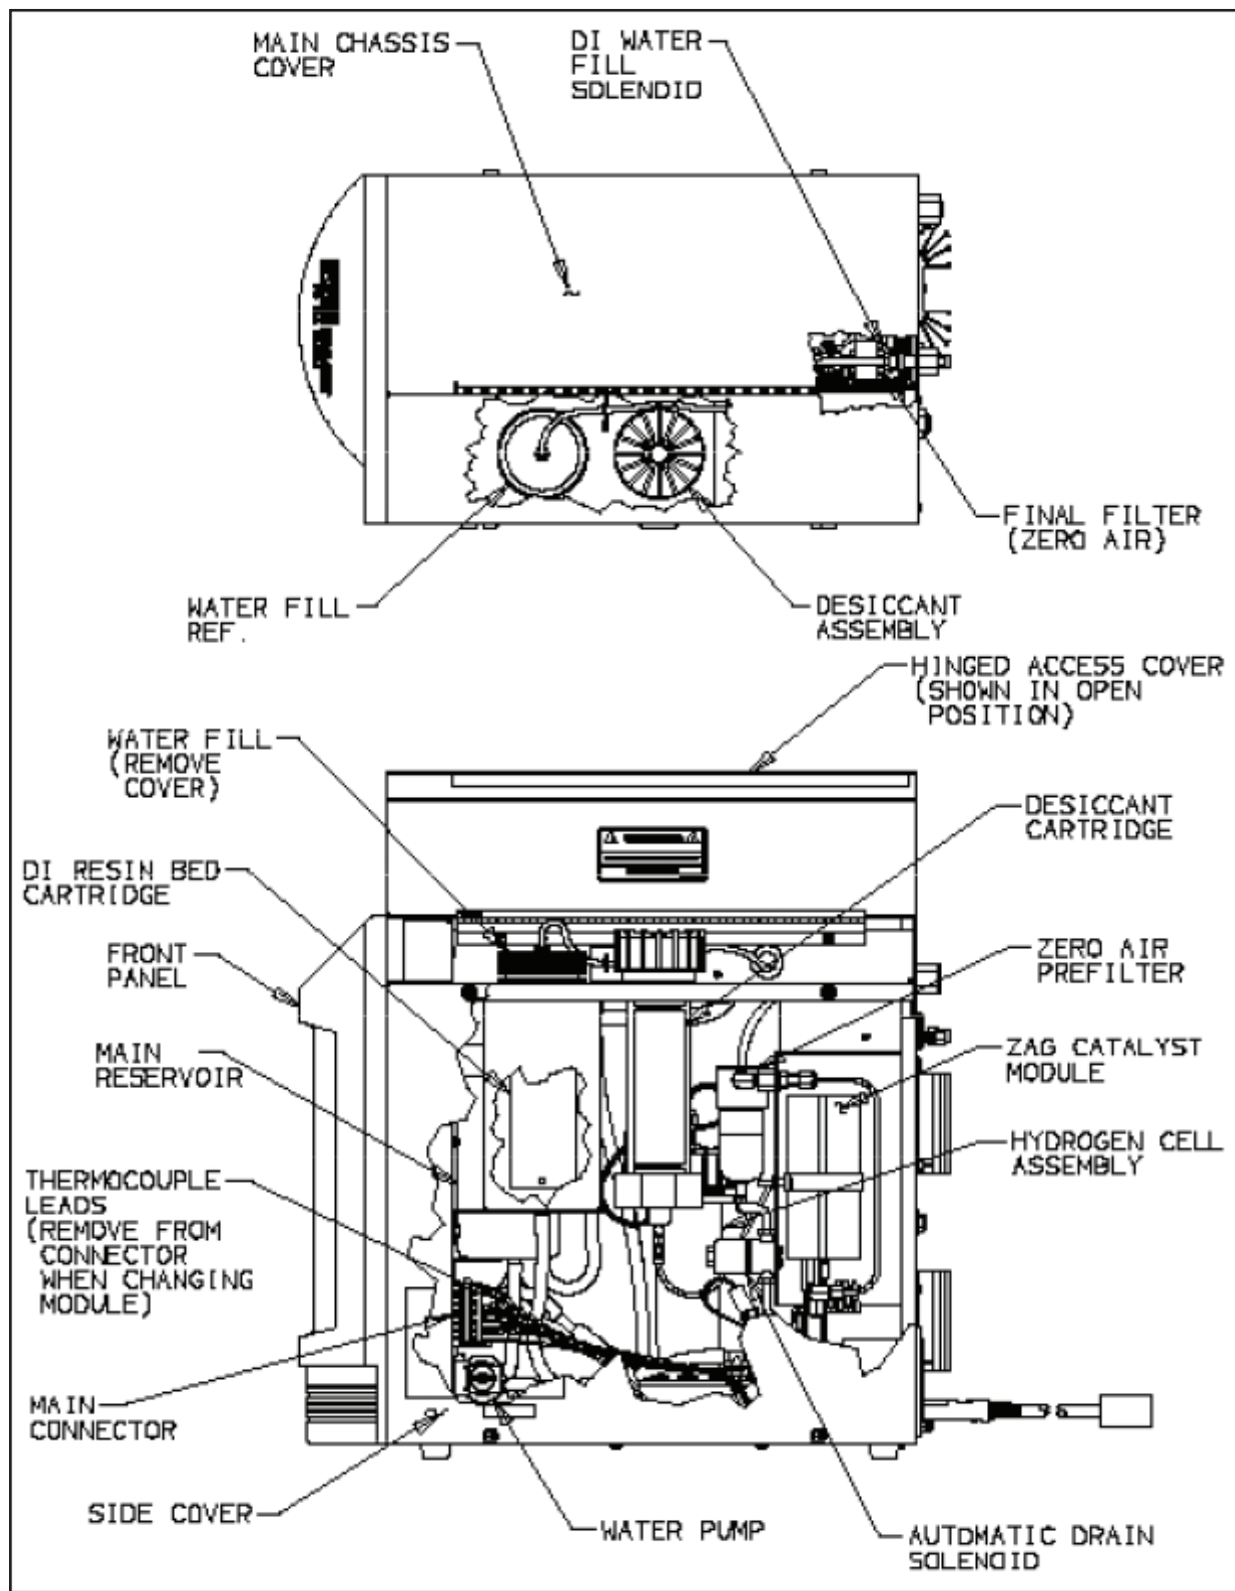
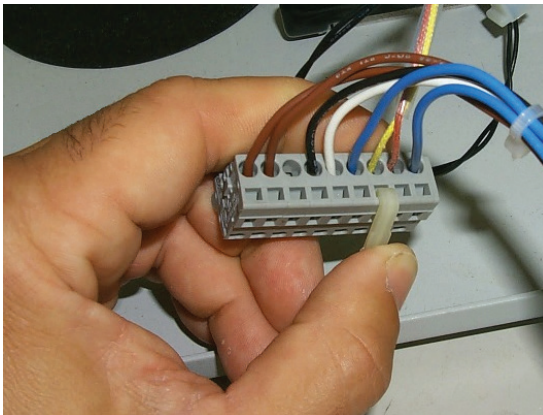

Figure 13 - FID Gas Station, Exploded View
Figure 16 - Thermocouple wire
The primary maintenance tasks required by the Parker Balston FID 1000 and FID 2500 are: changing the prefilter cartridge (annually), changing the sintered metal filter assembly (annually), and replacing the catalyst module (2 years). Each of these components are readily accessible by removing the side panel of the generator. A summary of the replacement part numbers and recommended Service frequency is shown at the end of the Maintenance section. See Figure 13 for the locations of the prefilter, final filter, and catalyst module.
- Remove Main chassis cover. There are 2 screws on the left side and 2 under the hinged cover of the generator (figure 13).
- Remove Right-side cover. There are 4 screws on the right side of the unit. (figure 13).
- Disconnect Catalyst Module connector located on right side of the unit (figure 13 and 14).
- Locate main connector (figure 13). Using Wago tool, included in replacement module kit, insert tool into main connector as shown in figure 16. Depress tool and remove yellow wire from position 7 of main connector. Similarly remove brown wire from position 8.
- 2 Lift the top cover lid and unscrew the water reservoir cap. Remove the Resin bed cartridge from the Reservoir bottle (see Figure 13).
- 4 Remove Main chassis cover. There are 2 screws on the left side and 2 under the hinged cover of the generator (figure 13)
- 5 Remove Right-side cover. There are 4 screws on the right side of the unit. (figure 13)
- 8 Disconnect water pump tubing from the base of the water main reservoir and from the hydrogen cell assembly (figure 13).